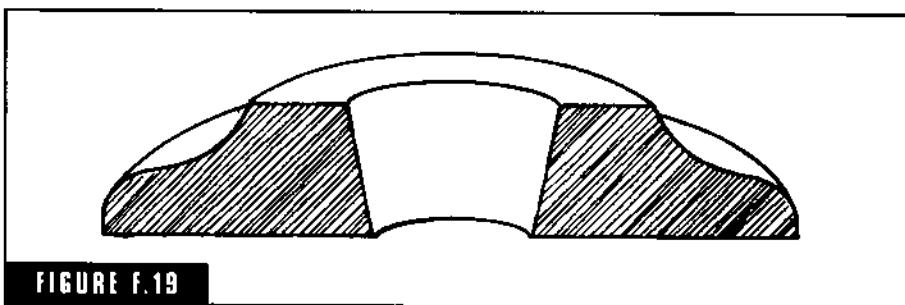

FIGURE F.19
**full pattern** A pattern that is constructed in one piece and not requiring that it be split in order to mold the job (Fig. F-19).